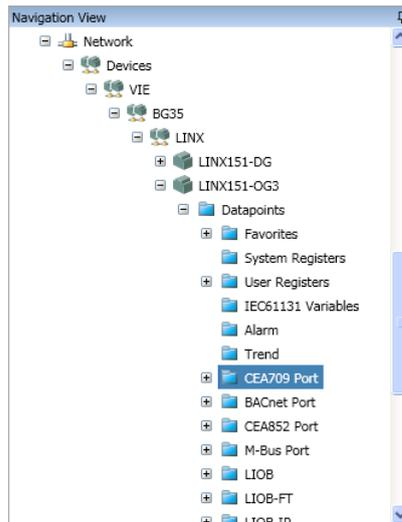

Figure 55: Device Data Points
5. The new device is displayed in the navigation view. If you have uploaded the device configuration or assigned a configuration, you now have access to all data points of the device (see Figure 55).